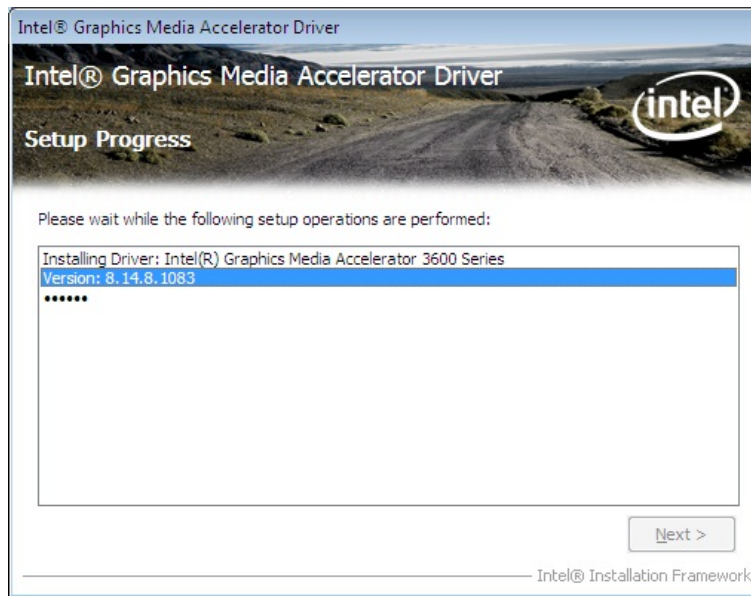

Figure 6-12: Graphics Driver Setup Operations
Step 12: Setup Operations are performed as shown in **Figure 6-12**.